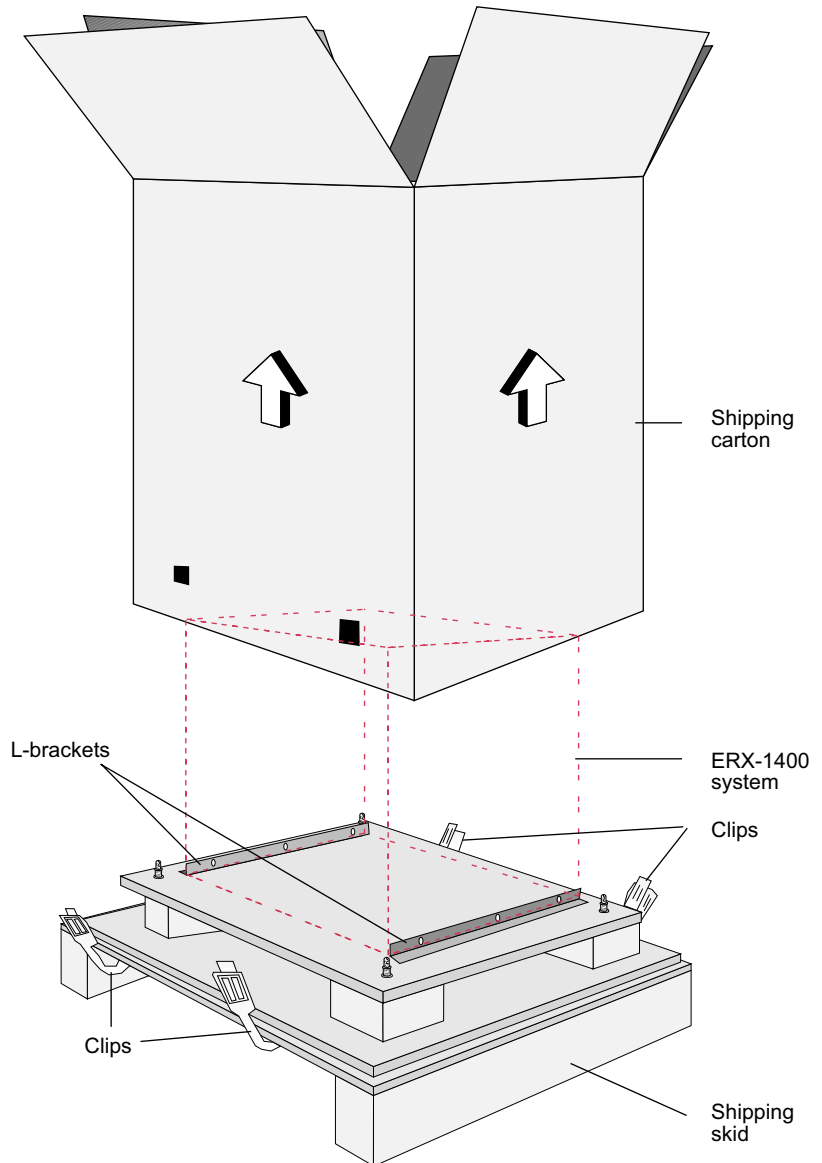

Figure 2-2 Lifting the carton off an ERX-1400 series
- 5 Lift the carton off the router. See Figure 2-2.